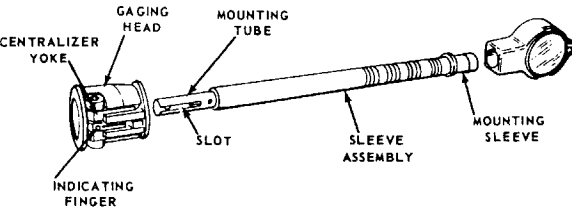

FIGURE 6
1. See Figure 6. Align Slot of new Sleeve Assembly with Indicator Finger in Gaging Head and slide Mounting Tube all the way into Gaging Head. While tightening Gaging Head Retaining Screw, apply enough force against Gaging Head to overcome spring tension of Sleeve Assembly.